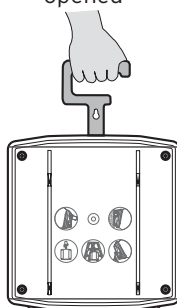

Fig. 11
3.1.4 Transport by hand (Fig. 11).